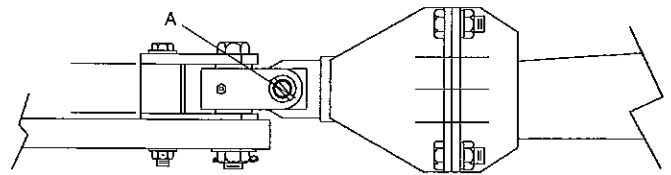

FIGURE 16 - FRONT HITCH ADJUSTMENT
Set the front hitch of harvester (see figure 16) so maximum lift for transport is maintained and still allows lowering into ground as far as necessary. Move the bolt-on hitch (A) to best position.